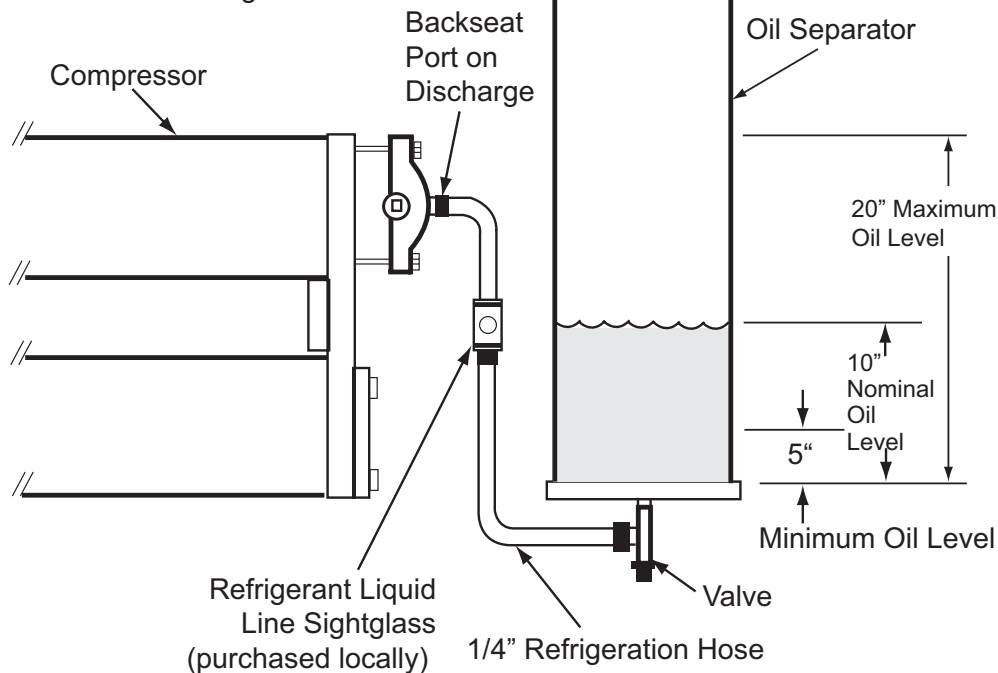

Figure 44 System Oil Level Specifications
Follow the steps listed below and refer to the notes listed in Figure 44.
2. Attach the hoses and sight glass to the oil separator charging Schrader valve and the compressor discharge service valve, as shown in Figure 44. Remove non-condensibles.